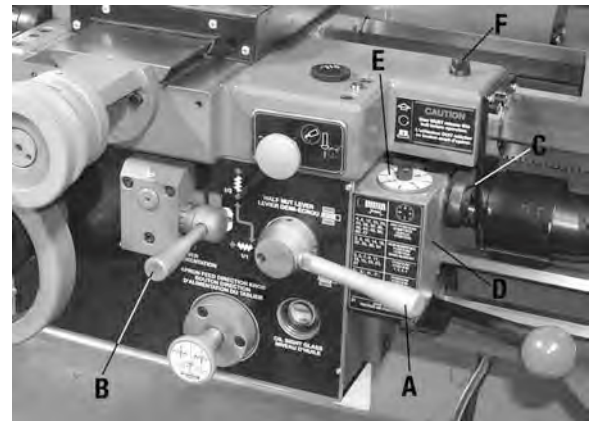

FIGURE 26
The half-nut lever (A) Fig.26 clamps and releases the half-nut, which clamps around the leadscrew. Only engage this lever when cutting threads, use the feed lever (B) for general purpose feeding.
This lathe has imperial leadscrews, therefore the thread dial chart (A) Fig.27 can only be used for imperial (inch) threads. For all other threading operations, the half-nut lever (A) Fig.26 must stay engaged until the threads are complete.
If the feed lever (B) Fig.26 is engaged, the half-nut lever will be blocked from use, and vice versa.
The thread dial knob (C) Fig.26 is loosened, the thread dial housing (D) pivots so its gear can engage or disengage from the leadscrew. When engaged the dial (E) turns with the leadscrew and spindle.